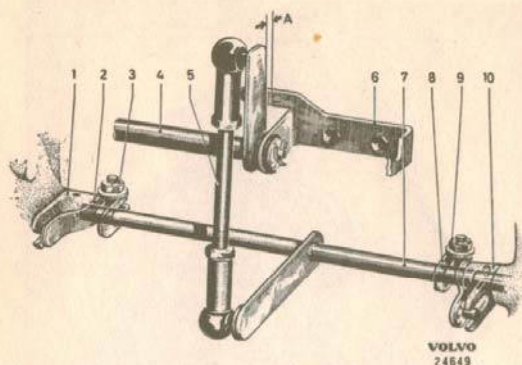

Fig. 1-78. Intermediary shaft and levers
2. Move the intermediary shaft into its position between the carburetors, see Fig. 1-78. Make sure that the protective plate is in good condition and that the sealing surfaces are clean.
1. Insert a feeler gauge 0.5 mm thick at (A), Fig. 1-78, between the lever and its check stop. Screw out the idling screws (2, Fig. 1-79) so that the throttle flaps are completely closed.
2. Loosen the nuts (3 and 9, Fig. 1-78) and push the outer end of the levers (2, 8) on the intermediary shaft carefully downwards, so that the pins just contact the lower tooth on the throttle spindle levers, (1, 10). Note. Do not press so hard that the throttle flap is influenced. Only the clearance downwards at the pins should be eliminated. Tighten the nuts (3, 9) in this position. Note when tightening that the shaft end play is distributed equally in both directions and that there is a small axial clearance between the levers on the intermediary shaft and the throttle spindle levers.